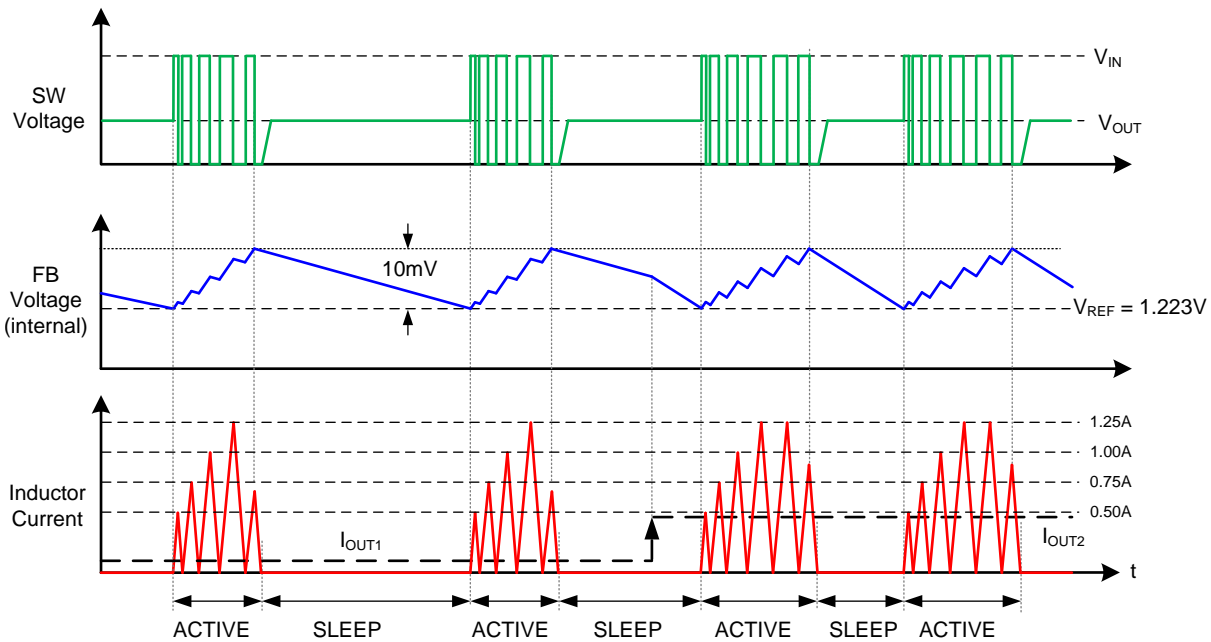

图 42. PFM Mode With Modulated ILIM, Output Voltage and Inductor Current Representative Waveforms
One of the supported ILIM settings enables a function that modulates the peak current threshold levels during the first three switching cycles of each active period as illustrated in 图 42. This function improves efficiency under most application conditions at the expense of slightly degraded load transient response.
- (1) For this current limit threshold selection, the ILIM pin may also be left open instead of using a 100-k $\Omega$  or greater resistor.
- (2) This  $I_{LIM}$  setting enables a function that modulates the  $I_{LIM}$  levels during the first three switching cycles as illustrated in 图 42.